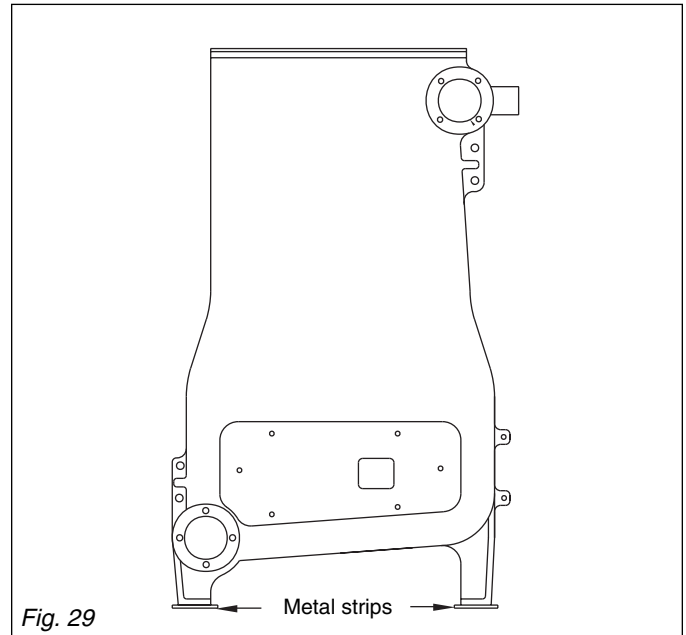

Fig. 29
- 2) Place boiler skids (metal strips) on the base. The skids should be located so that the boiler legs, front and back, sit evenly on the skids. See Fig. 29.